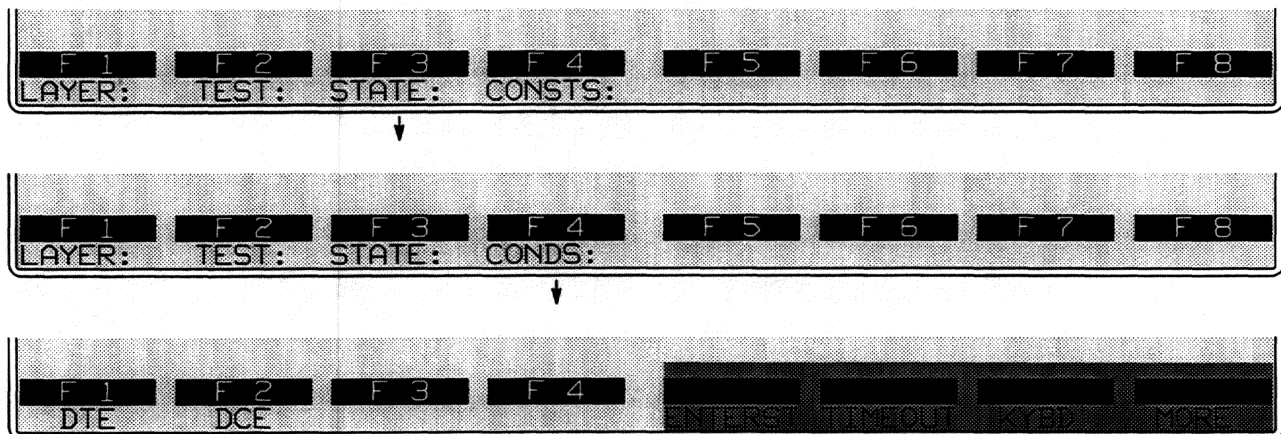

Figure 44-4 The softkeys for *DTE* and *DCE* are used to monitor ISDN protocol events once *Layer: 3* has been entered on the Protocol Spreadsheet.
- A group of conditions and actions at Layer 3 on the Protocol Spreadsheet that facilitate ISDN programming. Figure 44-4 shows the softkey path to the first rack of condition softkeys when the Q.931 package is loaded in at Layer 3 and a LAYER: 3 programming block has been opened on the spreadsheet.
When the Q.931 personality package is loaded in (via the Layer Setup screen), a set of conditions checks DTE and DCE leads both in monitor and emulate modes. This set of conditions is accessed by the DTE and DCE selections on the first rack of condition softkeys at Layer 3. See Figure 44-4.